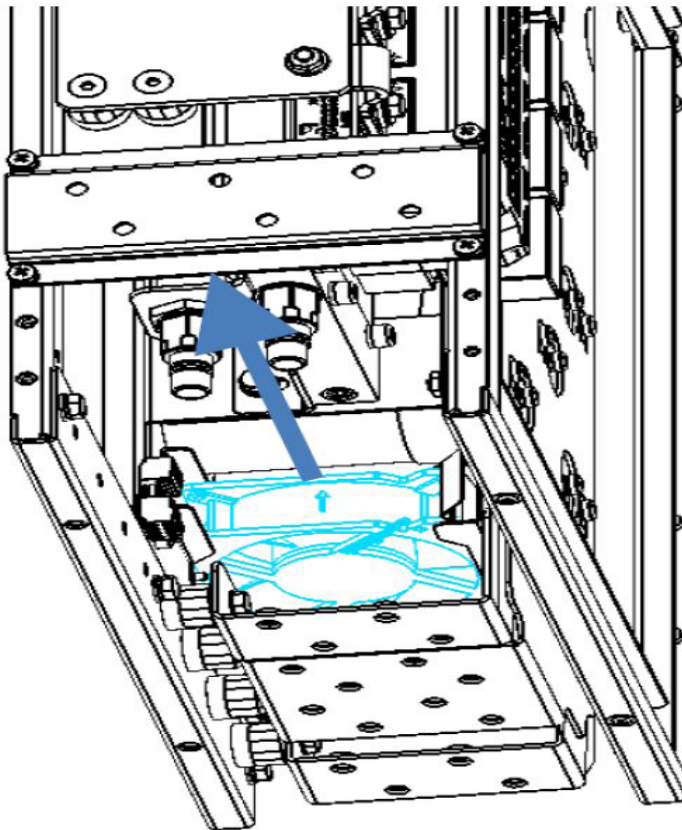

Figure 6.3: Step 2 to remove the fan
- Step 2: Pull the fan towards the front of the UP11, Figure 6.3 on page 6-12.